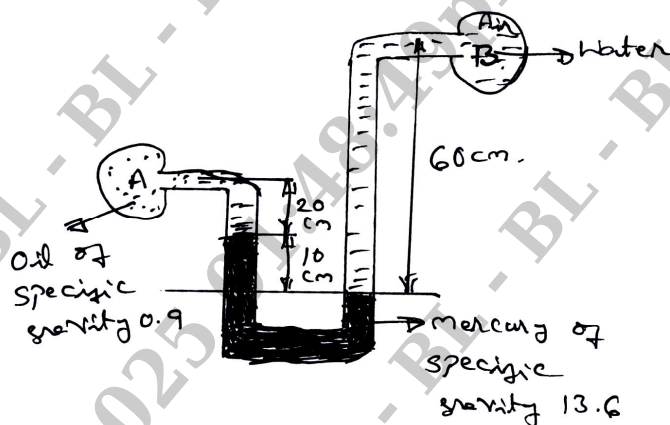

Fig.Q1(c)
- c. A differential manometer is connected at two points A and B as shown in Fig.Q1(c). At B, air, pressure is 9.81 N/cm^2 . Find the pressure at A. (08 Marks)